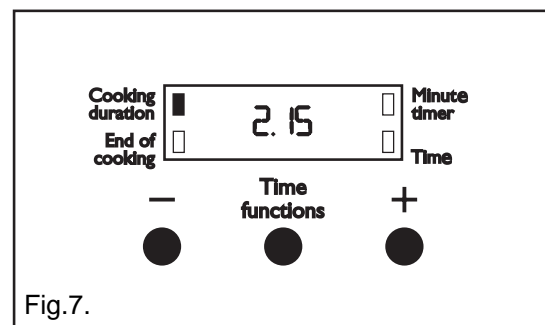

Fig.7.
- 3) To set the length of cooking time, press the Time Functions control button until the 'Cooking Duration' indicator neon is illuminated. Press the increase control ( + ) until the required length of cooking time is displayed, e.g. 2 hrs 15 mins as Fig. 7. If necessary depress the decrease control ( - ) until the correct time interval is achieved. The maximum cooking time is 10 hours.